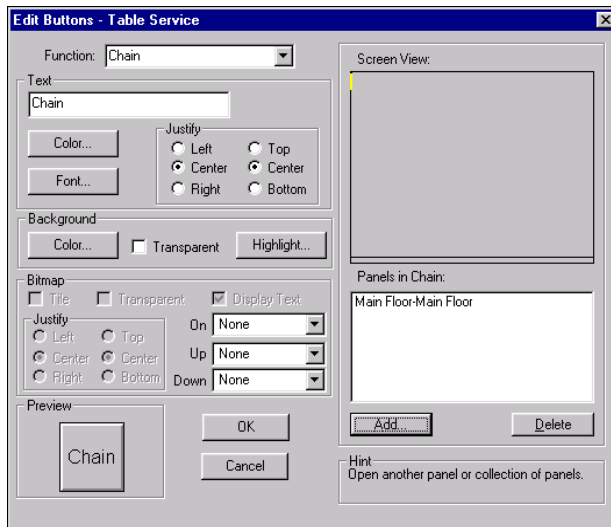

Figure 5-76 Chain Button Function
1. Select **Chain** from the **Function** drop-down list. Additional options display, as shown in Figure 5-76: